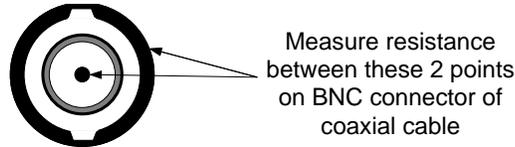

Figure 1. How to Measure DC Resistance of Coaxial Cable
6. Measure the DC resistance of the coax cable connecting to the SCU at the CDSC end. Measure the resistance between the center conductor and the outer shield on the BNC connector of the coax cable (Figure 1). The resistance should be between 40 and 70 Ohms.
8. Check the coaxial cabling in the CDSC. Measure the DC resistance between the center conductor and the outer shield on the T-connector where the coaxial cable coming from the SCU was removed in Step 5 (Figure 1). The resistance should be between 40 and 70 Ohms.
10. Measure the DC resistance of the coaxial cable connecting to the CDSU that cannot communicate with the SCU, (this is the coaxial cable connecting to the CDSU that appears first on the TLP list). Measure the resistance between the center conductor and the outer shield on the BNC connector of the coaxial cable (Figure 1). The resistance should be between 40 and 70 Ohms.